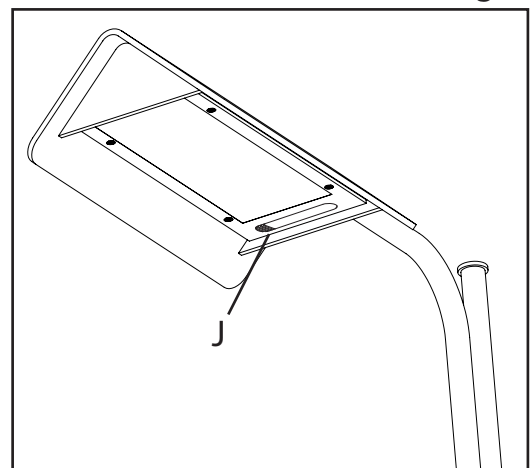

fig. 2
2. Rotate and adjust height by lifting the lamp upper tube (F) to desired position.
3. Connect power supply plug adapter (G) to the lamp cord (H). Insert power supply plug into wall outlet.
4. Turn the lamp on by lightly touching the switch (J) on the bottom face of the shade near the stem (fig. 2). Adjust the brightness by sliding your finger along the switch or tapping anywhere on the switch. Tap the ribbed end of the switch to turn the lamp off.